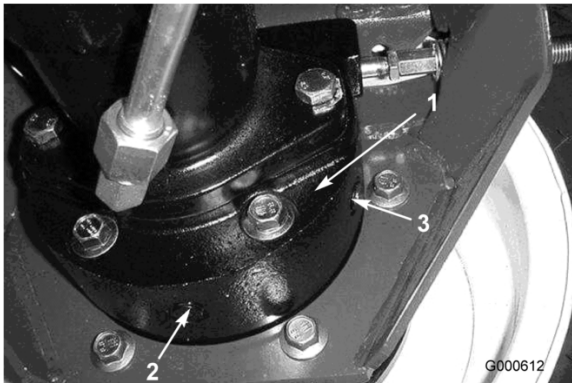

Figure 43
3. Place another drain pan under the brake housing on the other side of the wheel (Figure 43).